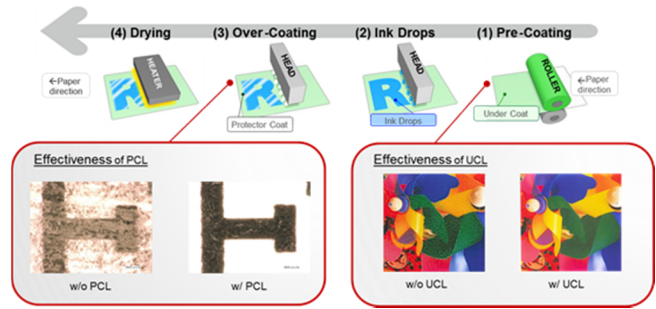

Fig.5 Process of imaging on VC60000
For supplies in this printer, we divide its functionality into three, that is, (1) creating images on the paper surface with Quick Drying Ink (QDI), (2) fixing the ink droplet on the paper surface with Under Coat Liquid (UCL) and (3) protecting the image surface from smearing with Protector Coat Liquid (PCL) [5]. Fig. 5 describes the whole process of imaging on this type of paper on VC60000.